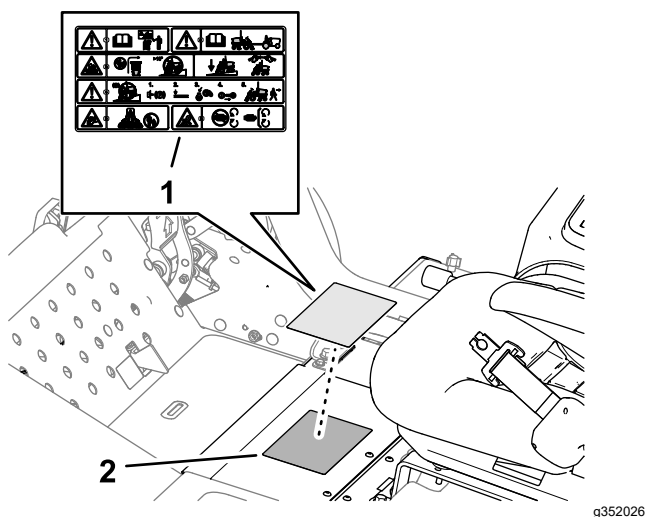

Figure 24
1. Wipe clean the standard warning decal with alcohol, and allow the frame to dry (Figure 24).
2. Remove the backing and apply the CE warning decal (Part No. 138-1186) over the standard warning decal as shown in Figure 24.